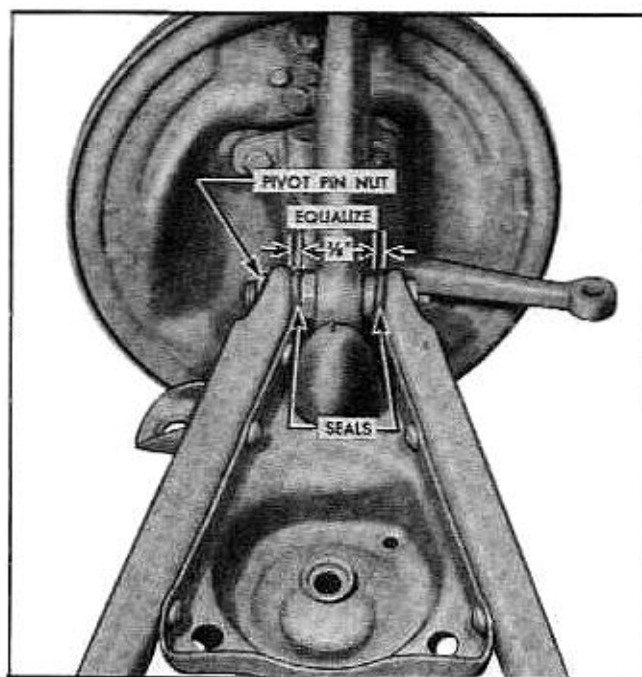

Fig. 3-18 Lower Pivot Pin Assembly
3. Remove nut from rear of left hand lower pivot pin (Fig. 3-18) or front of right hand pin.
8. Position rubber seals at lower pivot pin bushing (Fig. 3-18). Hold bushing with knuckle support in a central position in forked end of lower control arm and install lower pivot pin and lockwasher after coating threads on pin with chassis lubricant. **NOTE:** Lower pivot pin must be centered, within one thread, between ends of control arm after lock nut has been tightened (Fig. 3-18).